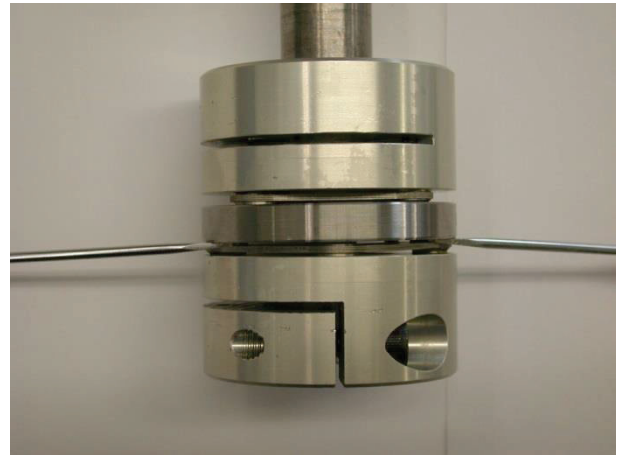

Fig. 5
For disk pack (2) disassembly, use suitable tools, e.g. screwdrivers on the right and left side of the collar bushing (2a) (Fig. 5).